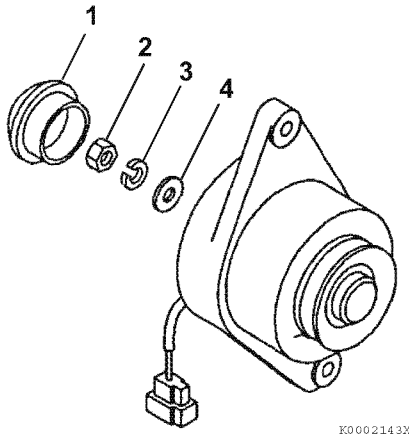

Figure 11-24
1. Remove the rear cover (Figure 11-24, (1)).
2. Remove the nut (Figure 11-24, (2)), lock washer (Figure 11-24, (3)), and flat washer (Figure 11-24, (4)).